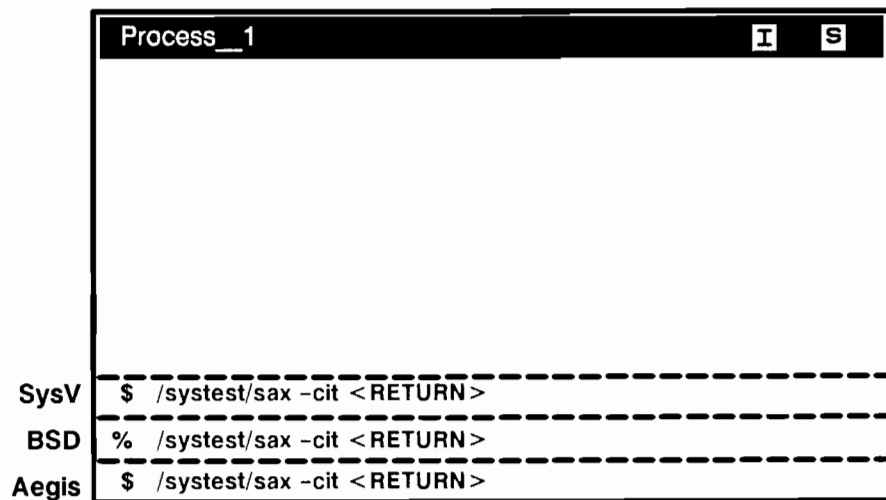

Figure 7-3. Starting the SAX Tests
3. If you are testing a *disked* workstation, begin the SAX tests by typing the **sax** command shown in Figure 7-3.